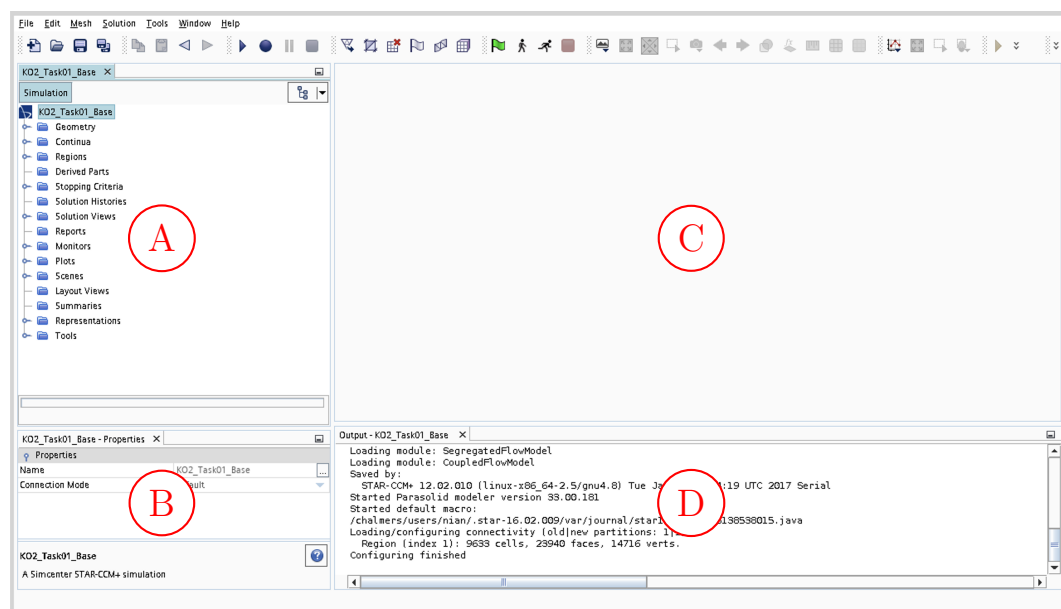

Figure 5.1: **Star-CCM⁺** graphic user interface
Figure 5.1 shows the user interface of **Star-CCM⁺**. In **Star-CCM⁺** the CFD workflow is mostly represented in the tree structured menu to the left in the screen (A). Each node in the tree
Now the file is loaded and you should see something like what is shown in Figure 5.1
- (b) In the properties window (field B in Figure 5.1), choose one of your newly created line probes in the **Parts** menu.